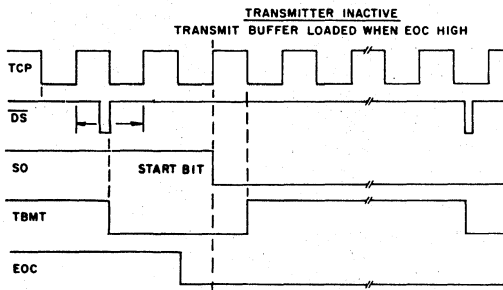

Fig. 28 TRANSMITTER AT START BIT NOT A TEST POINT
- NOTE: SEE FIGURES 28, 29, 30 FOR DETAILS.